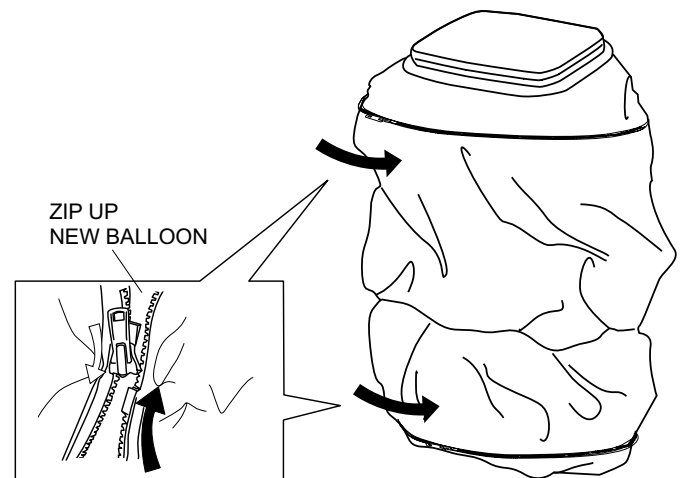

Figure 34. Zipping Up New Balloon
4. Zip up the top and bottom of the new balloon. See Figure 34.